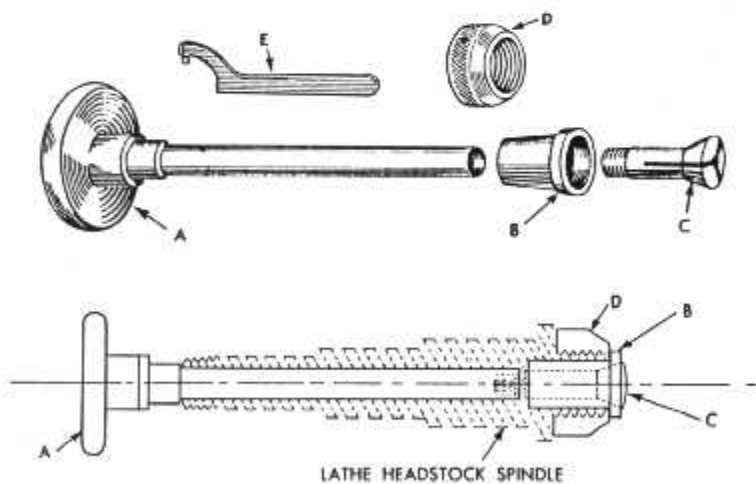

FIGURE 25—DRAW-IN COLLET ATTACHMENT
The assembly consists of a draw-in spindle (A in Fig. 25) threaded at the right end to receive the collet; a tapered closing sleeve (B); a split holding collet (C); spindle nose cap (D); and spindle nose cap wrench (E). The tapered closing sleeve fits into the headstock spindle and adapts it to the collet. The work is placed in the